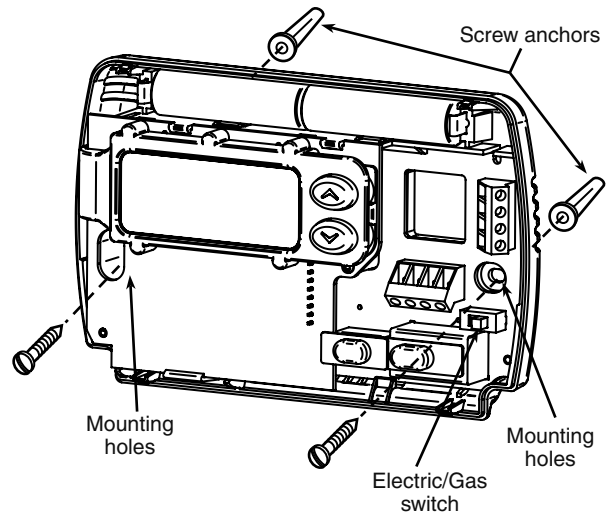

Figure 1. Thermostat Base
This thermostat is configured from the factory to operate a heat/cool, fossil fuel (gas, oil, etc.), forced air system. It is configured correctly for any system that DOES NOT require the thermostat to energize the fan on a call for heat. If your system is an electric heat or heat-pump system that **REQUIRES** the thermostat to turn on the fan on a call for heat, locate the **GAS/ELECTRIC switch** on the back of the thermostat (see fig. 1) and switch it to the **ELECTRIC** position. This will allow the thermostat to energize the fan immediately on a call for heat. If you are unsure if the heating/cooling system requires the thermostat to control the fan, contact a qualified heating and air conditioning service person.
5. Fasten base loosely to wall, as shown in fig. 1, using two mounting screws. Place a level against bottom of base, adjust until level, and then tighten screws. (Leveling is for appearance only and will not affect thermostat operation.) If you are using existing mounting holes, or if holes drilled are too large and do not allow you to tighten base snugly, use plastic screw anchors to secure subbase.
If **"LO BATTERY"** is displayed, the batteries are low and should be replaced. For best results, replace all batteries with new premium brand alkaline batteries such as Duracell® or Energizer®. To replace batteries, install the batteries along the top of the base (see Fig. 1). The batteries must be installed with the positive (+) end to the left.